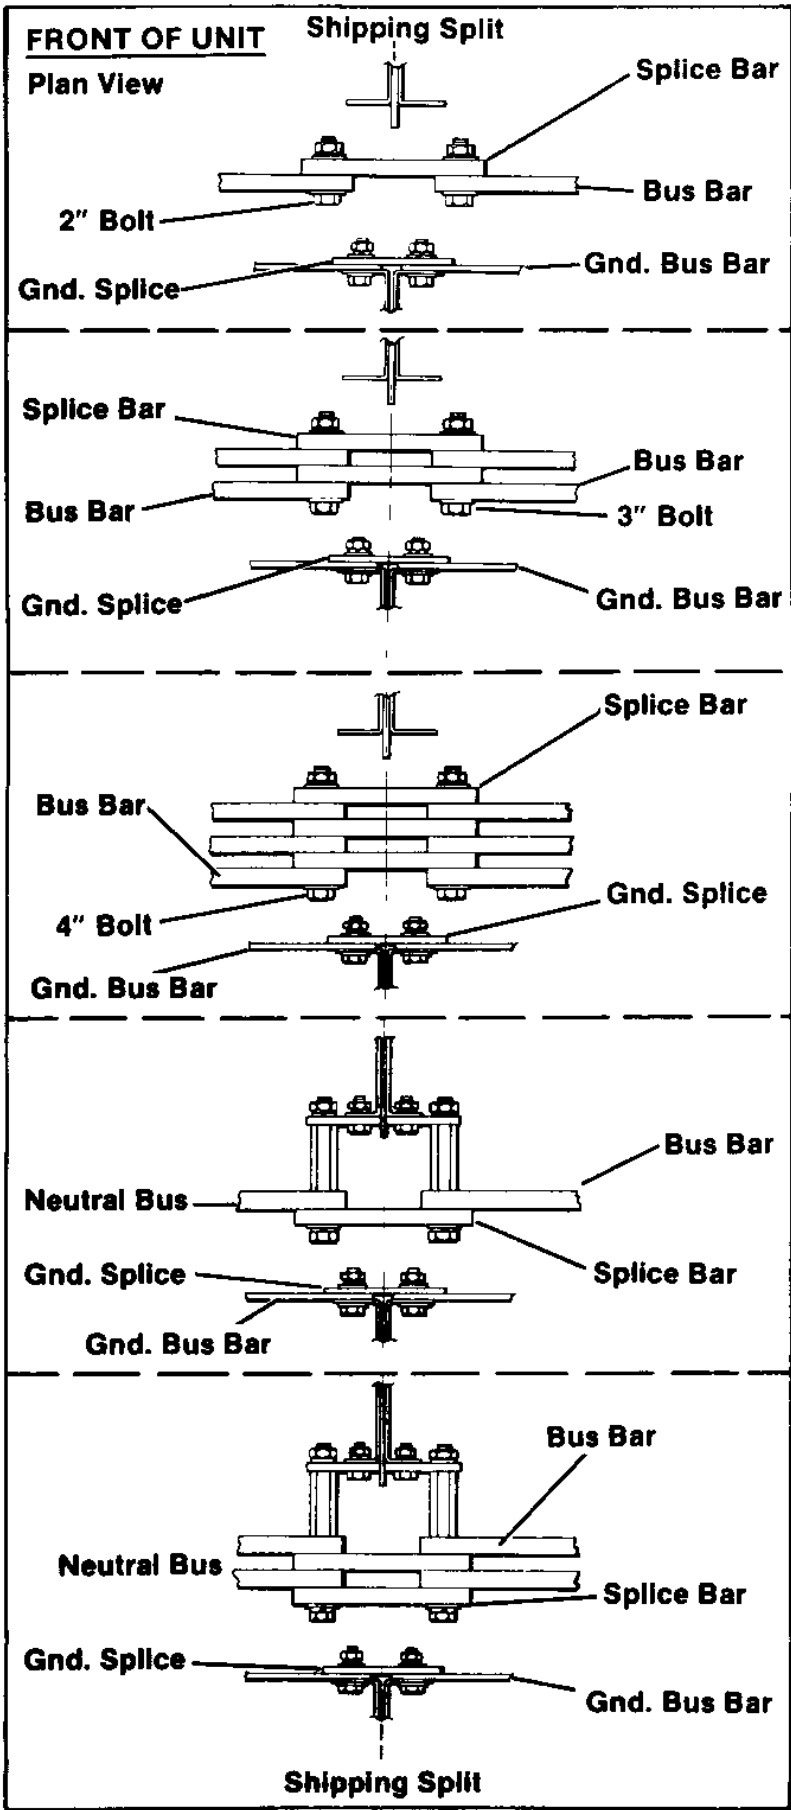

Figure 14. Bolted Bus Joints
4. For method of bolting joints, see Figure 14, and follow hardware tightening instructions.